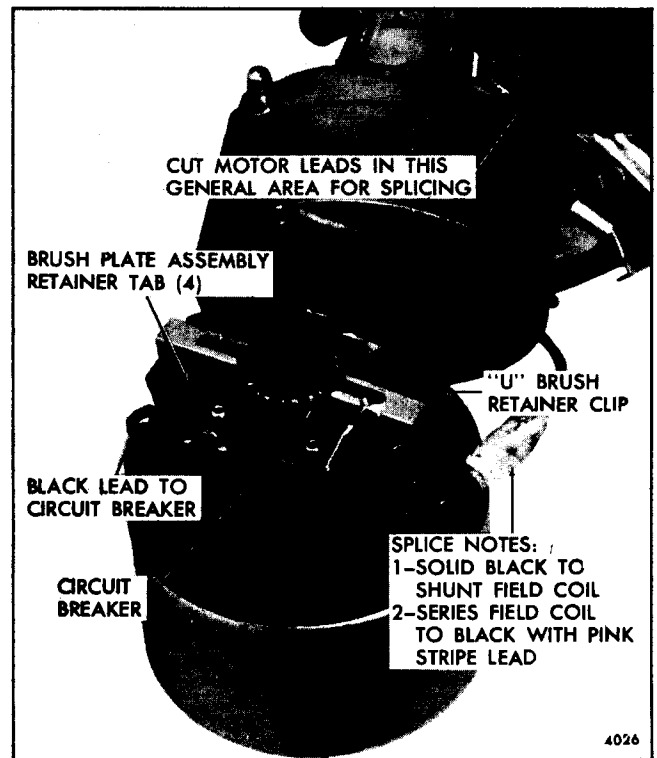

Fig. 2-34-Brush Plate Assembly
- f. To check the circuit breaker, disassemble motor section of wiper and visually inspect the circuit breaker for dirty or burned contacts or solder connections to circuit breaker terminals (Fig. 2-34).
- Straighten out the 4 tabs that secure the brush plate to the field coil retainers (Fig. 2-34).
- Install "U" shaped brush retainer clip over brush holder that has brush lead attached to circuit breaker (Fig. 2-34).
- The end case and field assembly is serviced as a unit. To free the field and case assembly, cut the solid black and black with pink stripe leads in a location convenient for splicing preferably near the wiper terminal board (Fig. 2-34).
holder; then position the brush plate assembly on the mounting tabs in the position shown in Fig. 2-34.